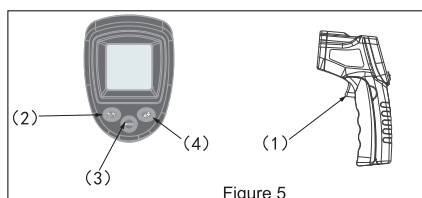

Figure 5
2. Diagram description: Figure 5